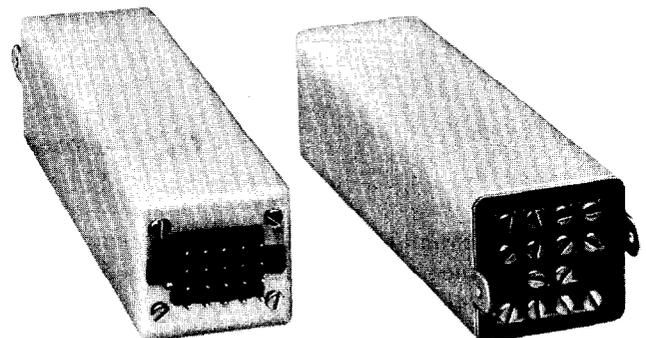

Fig. 1—4066A Network
2.01 The 4066A network (see Fig. 1) consists of an aluminum can containing two printed circuit boards, a 20-pin connector plug, and a plastic faceplate that contains 14 screw-type switches. The network is approximately 1-3/4 inches high by 1-3/4 inches wide by 7 inches long. Tabs are provided on the front of the can to facilitate removal of the network from the mounting shelf socket through the use of a 602C or a 602D tool.